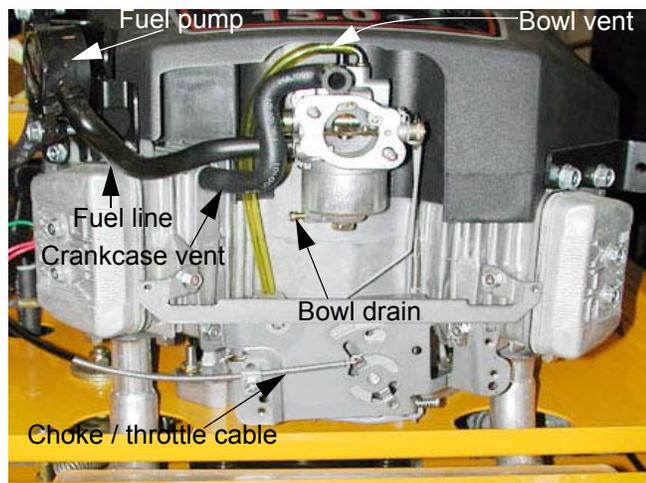

Figure 14.2
14.2. The carburetor is equipped with a bowl drain for off season storage as well as draining of contaminated or stale fuel. See Figure 14.2.
NOTE: Air filter housing completely removed for figure 14.2